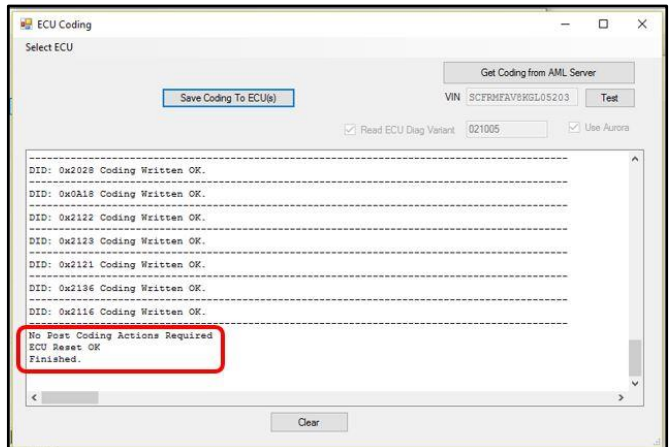

Figure 9
14. End of coding download will have a finished message (refer to Figure 9).